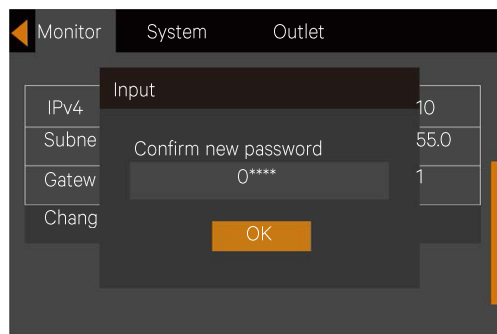

Figure 5-24 Confirming new password
5. After entering the new password, press the key to confirm it, at this point the system requests the user to confirm the new password by entering it again. See Figure 5-24.